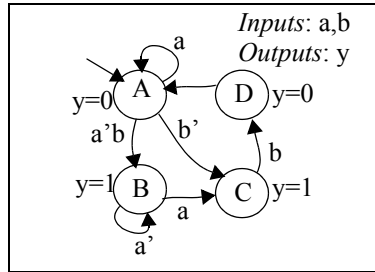

Figure 3.112
- 3.46 The FSM in Figure 3.112 has two problems: one state has non-exclusive transitions, and another state has incomplete transitions. By ORing and ANDing the conditions for each state's transitions, prove that these problems exist. Then, fix these problems by refining the FSM, taking your best guess as to what was the FSM creator's intent.